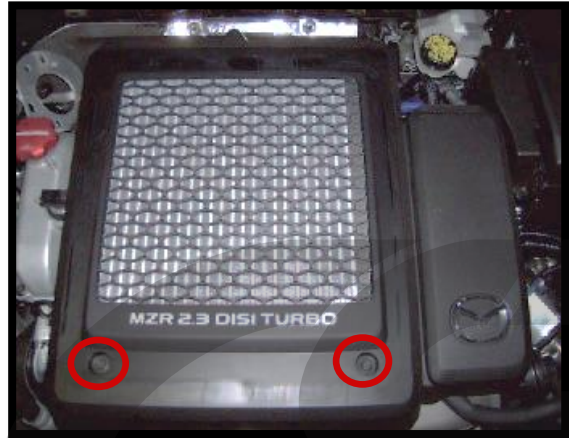

Figure 1a
- a) Remove the top mount intercooler (TMIC) cover by removing the two 10mm bolts (red circles in Figure 1a).